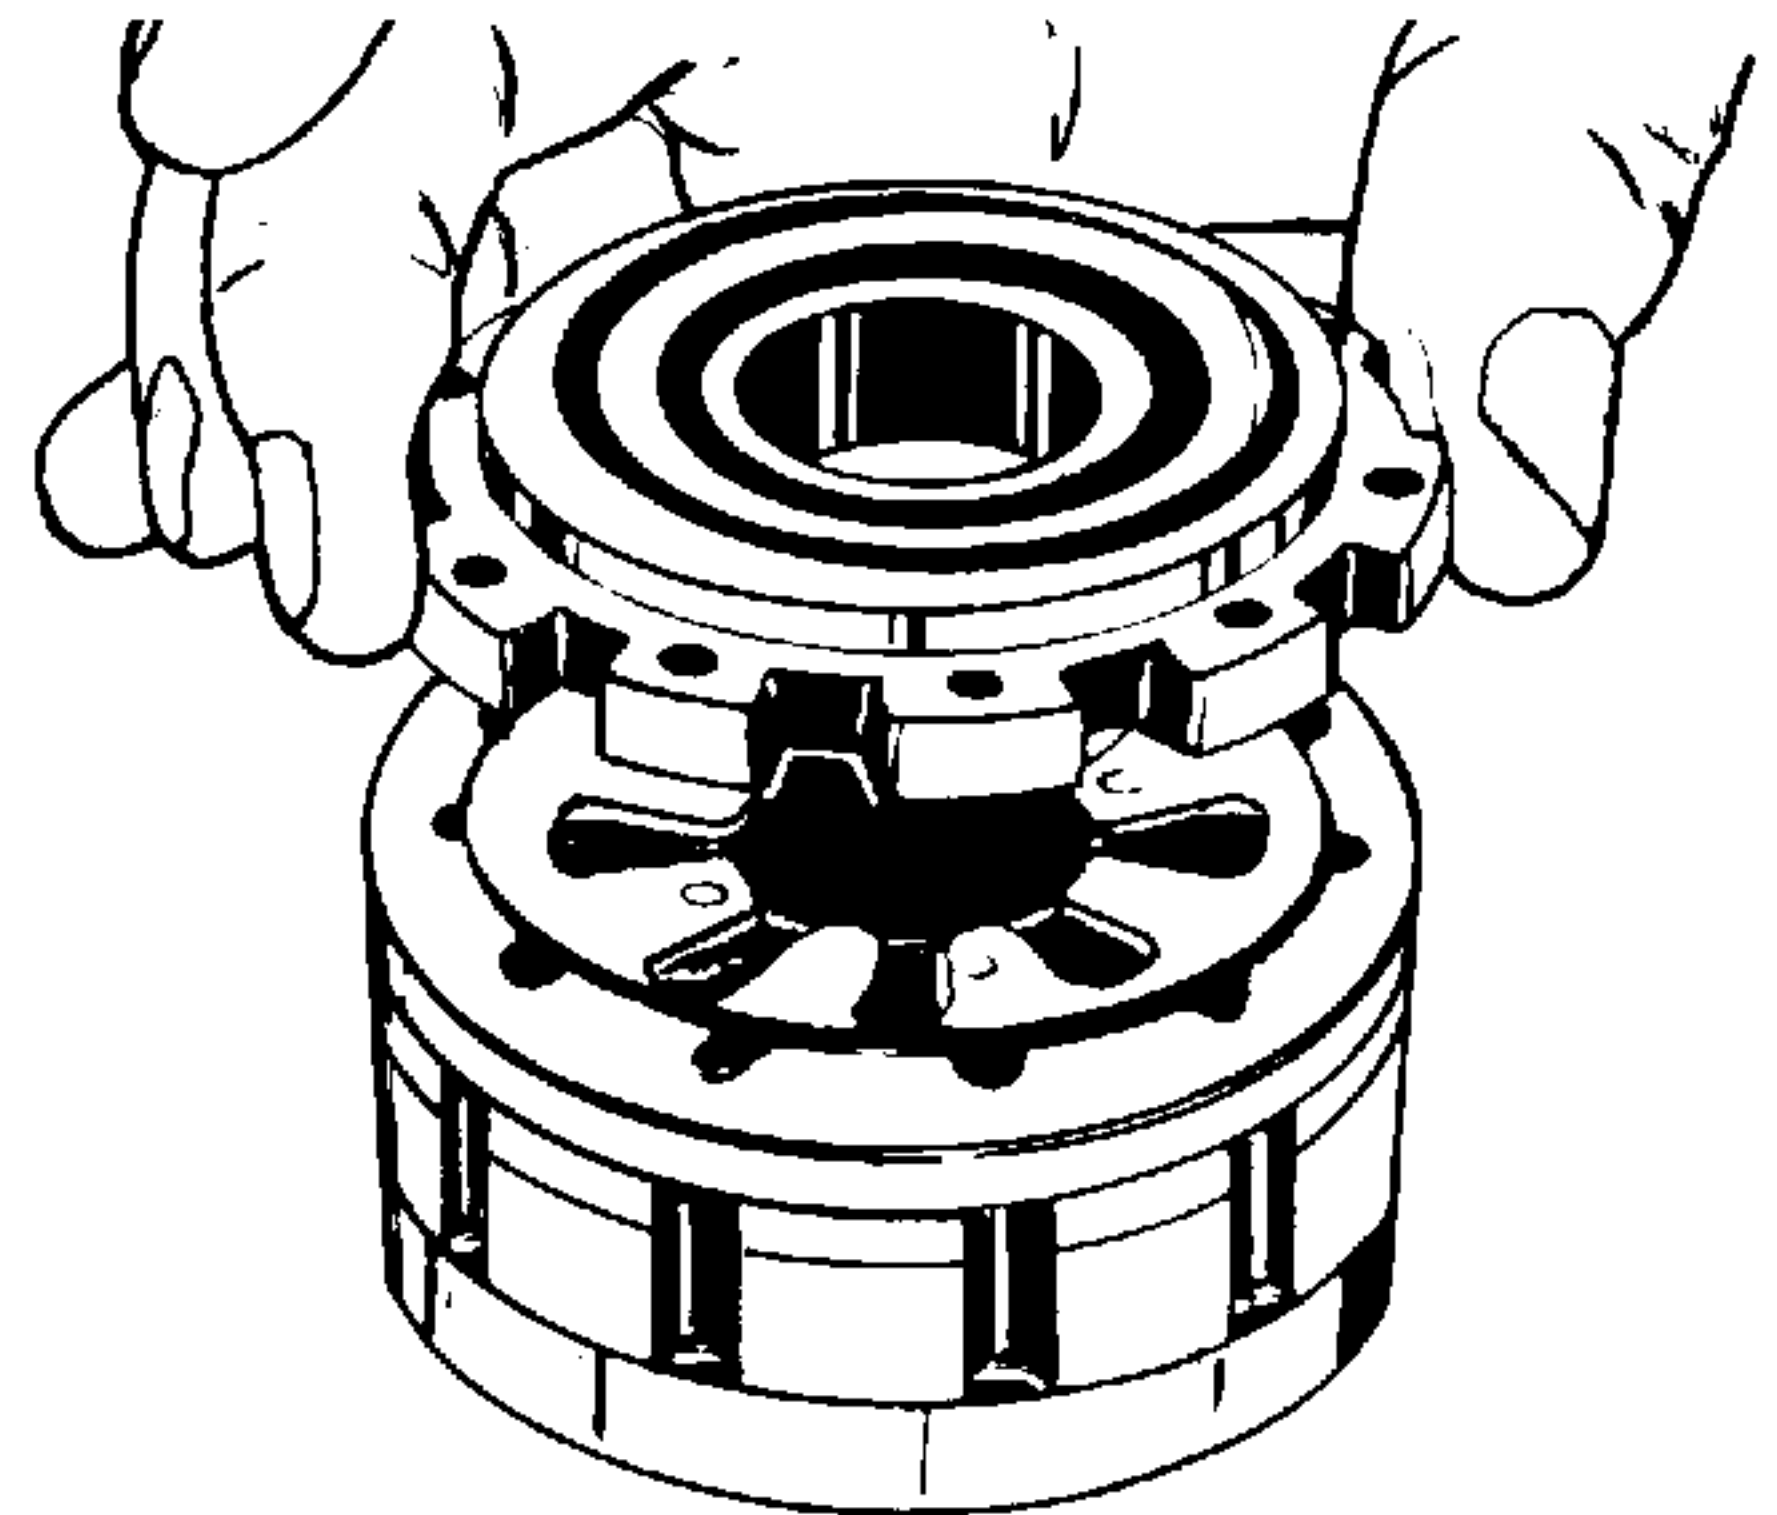

Figure 4-61. Installing Commutator Cover.
15. Place commutator cover (18, Figure 4-1) on top of commutator ring (20) with flat surface toward commutator. Align screw holes in cover with screw holes in drive plate (24). See Figure 4-61.